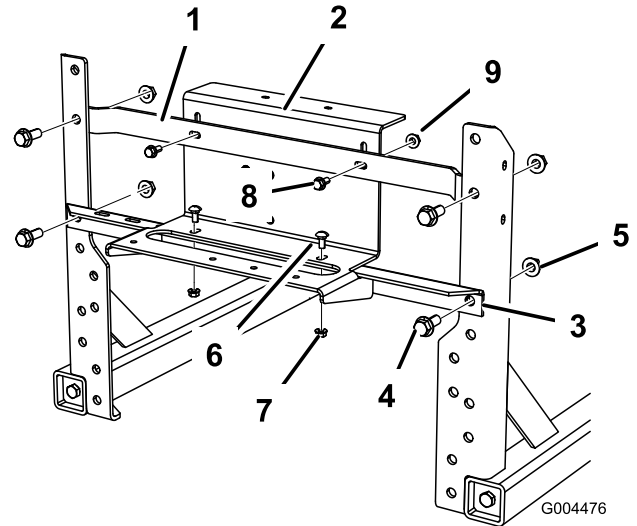

Figure 10
1. Install the lower crossbar that you removed from the old boom uprights using the existing fasteners (Figure 10).